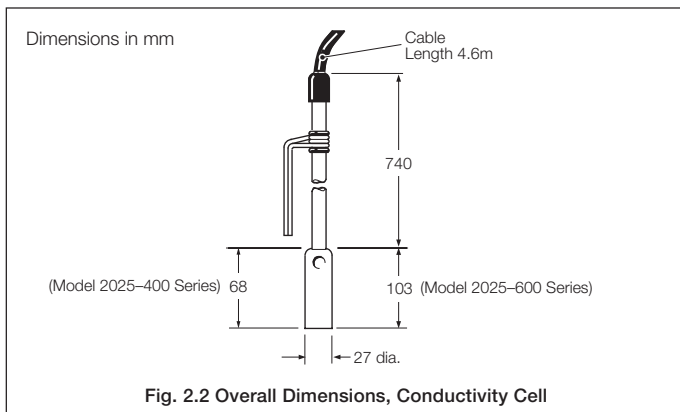

Fig. 2.2 Overall Dimensions, Conductivity Cell
**Note.** Allow sufficient clearance for easy removal of cell for cleaning – see Fig. 2.2 for overall dimensions of cells.
## 2.3 Overall Dimensions, Conductivity Cell – Fig. 2.2